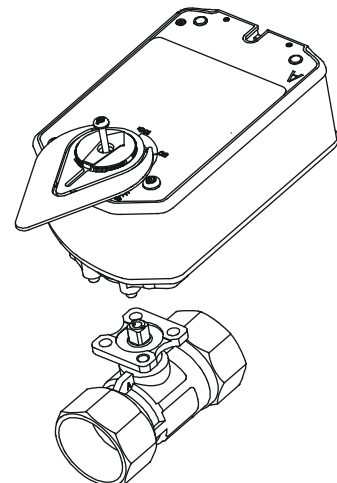

Figure 9: Mount the Actuator
7. Install the actuator on the ball valve (Figure 9). Tighten the actuator mounting screw to a torque of 10 to 12 lb·in. (1.1 to 1.4 N·m) and snap in the large adjustable pointer into place.